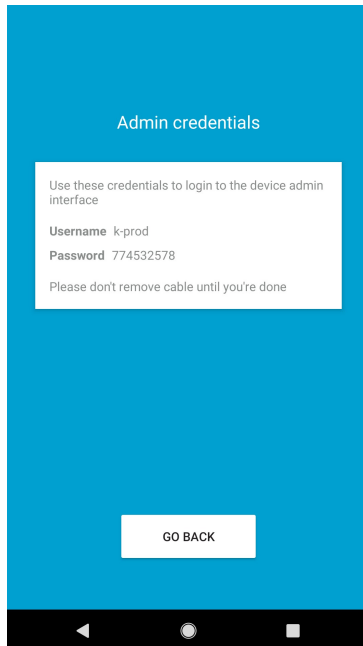

Figure 22
1. If **Show admin credentials** was chosen in the Encoder setup screen in *Vostio Service Tool* (or when setting up an encoder again according to section 2.1), a screen as in the example in Figure 22 is shown. The username is the login username for Vostio Service Tool. The password is a one time password which can be used for logging into the encoder web interface; see step 6 below.